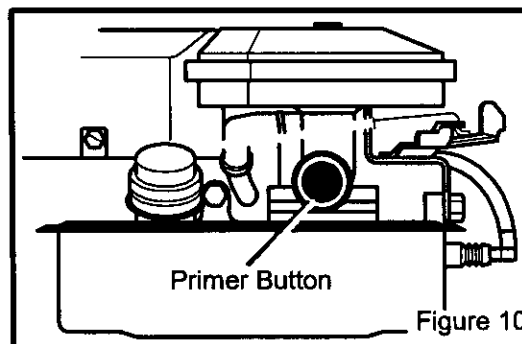

Figure 10
5. The **primer button** is on the side of the engine (Figure 10). Push the **primer button**. Every time you push the **primer button**, wait two seconds. For the number of times required to push the **primer button**, see the engine manufacturer's instructions.